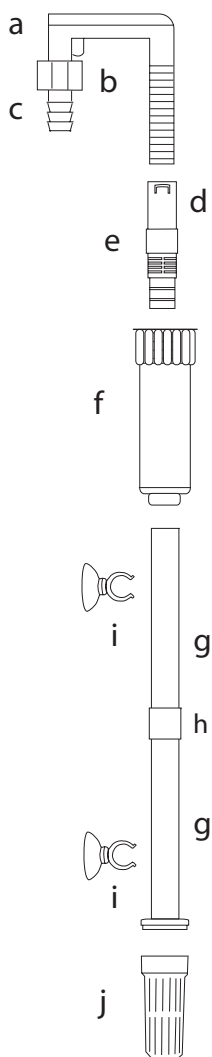

Fig 7
8. Prior to installing the head unit, turn it over, remove the impeller cover extension pipe so you can see the impeller. Make certain that the power cord is not wet and plug it into the receptacle. Turn it on and ensure the impeller is spinning and that the UV-C works. You should be able to hear the impeller spinning and see the blue light from the UV-C. **DO NOT LOOK AT THE BLUE LIGHT FROM THE UV-C FOR MORE THAN A SECOND. DO NOT OPERATE THE UV WITH OUT WATER FOR MORE THAN A FEW SECONDS.** The switch for the UV-C is located at the top of the head unit on the side behind the frosted plastic cap. When the UV light is on the green LED located next to the switch will illuminate, if the UV lamp stops working for whatever reason the LED will turn off. If the impeller does not turn or the UV-C does not light up see Cleaning Your Filter for instructions on how to assess the impeller and UV Lamp. Fig 7